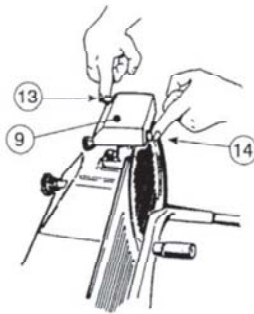

Fig. 2
- * Loosen the locking knob (12) on the sharpener group.
- * Raise the sharpener group, turning it by 180° so that both grinding wheels are in working position. See Fig. 2.
- * Secure the group by turning the locking knob (12).
- * Press the on/off switch (1) and press button (13).